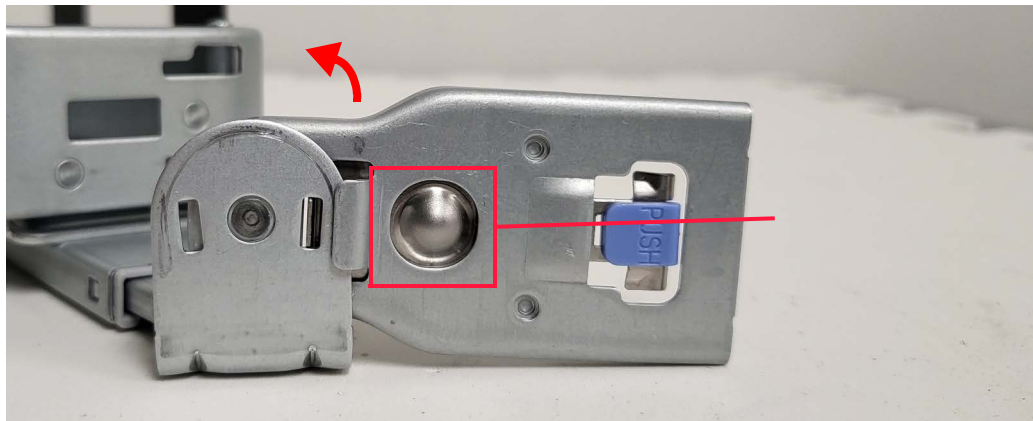

Figure 2.20 Switching CMA directions
2. Verify the CMA direction. To change the direction of the CMA so that the body connector is on the opposite side of the enclosure, press the pivot release button on the outside of the CMA elbow (identified in Figure 2.20), pivot the arm 180 degrees, and pivot the arm connectors 180 degrees.